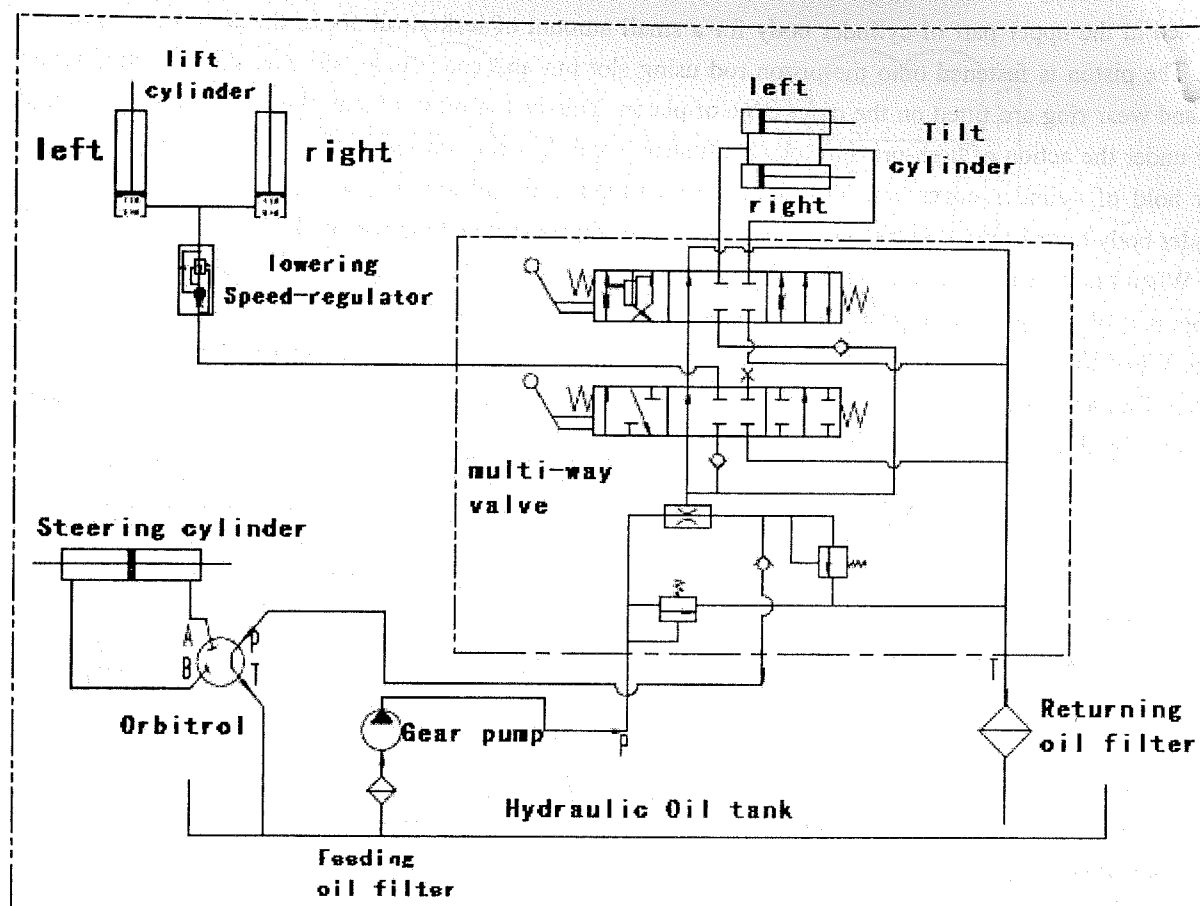

Fig 8-7 Oil Circuit of Hydraulic System
8.4 Oil Circuit of Hydraulic System (Main Oil Circuit) (Fig 8-7)